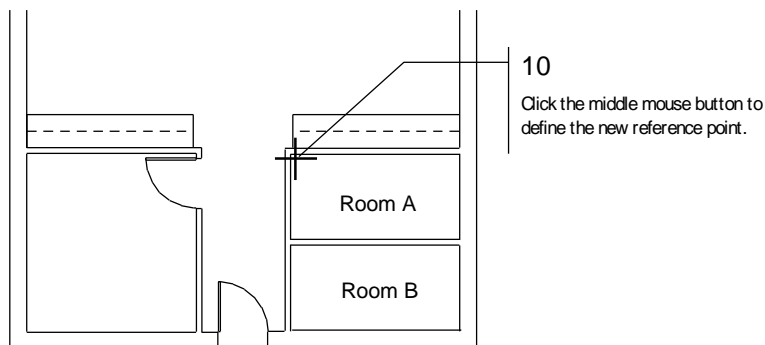

Figure 3.39: Locating the next door
- Click the middle mouse button near the upper-left corner of Room A, shown in Figure 3.39. You are prompted to *Select hinge side of door*.